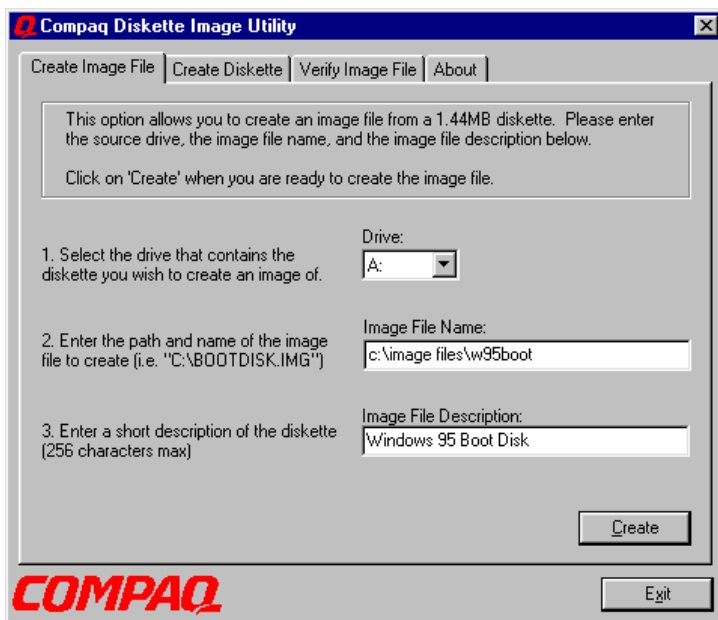

Figure 5-4: Create Image File screen
3. Provide the source drive, a path where you want to save the image along with the file name the image will have, and an image file description. Your screen should be similar to Figure 5-4.